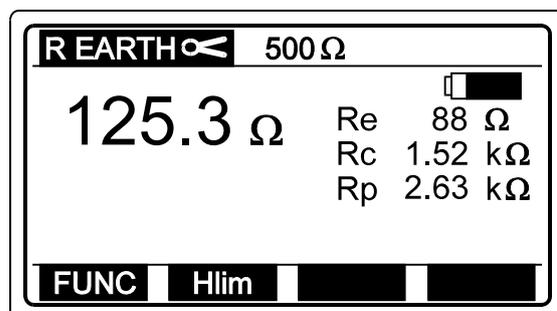

Fig. 30. Example of Earth Resistance test result
- ◆ Press the **Back** (F1) key after setting the distance value, to return to “Earth Resistivity initial menu” (see the figure 30.).